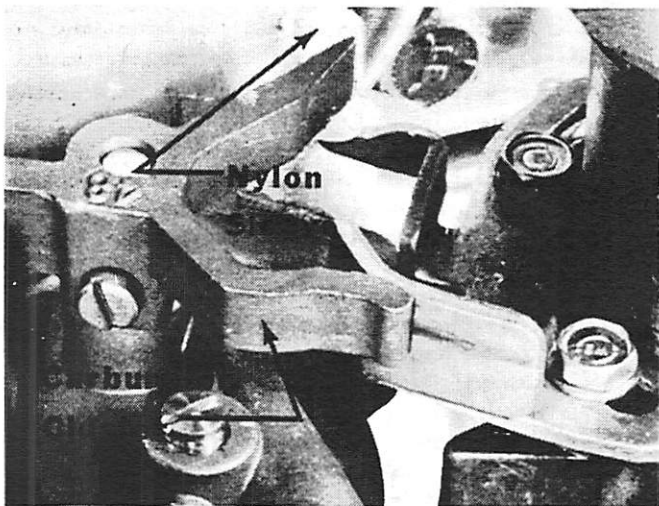

Figure 4. Second Throttle Pickup Pin Adjustment
15. Bend second throttle pickup pin (with nylon sleeve) against carburetor cluster (.000" [0.000mm] to .015" [0.3810mm] gap). (Figure 4)